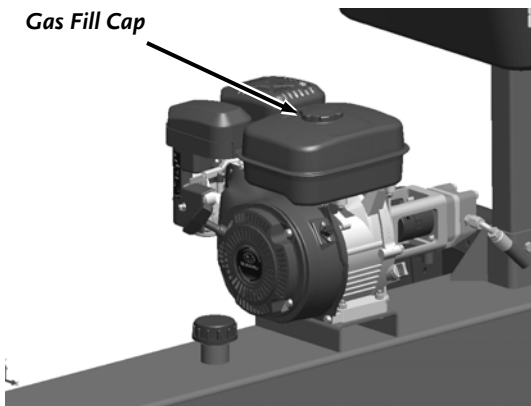

Figure 3
6. Remove the Gas Fill Cap and fill the Gas Tank with fresh, unleaded gas (with a minimum of 85 Octane) to approximately 1" to 1-1/2" below the top of the fill neck to allow for fuel expansion (**Figure 3**). Be careful not to overfill and reinstall the Gas Fill Cap before starting the engine. See your Engine Owner's Manual for more detailed information.